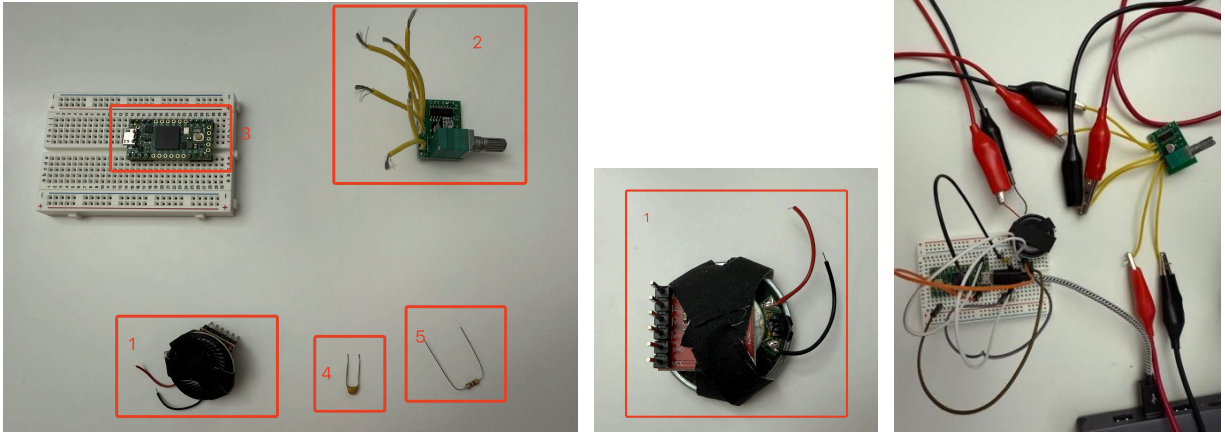

Fig. 1. Main Components
- An electronic speaker tightly coupled with an AXDL335 MEMS analog output accelerometer (#1 in Fig. 1; you need to make it by yourself; Fix them on the breadboard.)
- An audio amplifier (#2 in Fig. 1; 5V power supply; use left channels only; use maximum output level)
- Teensy 4.0 board for reading accelerometer output voltage @ 50 Hz sample rate (#3 in Fig. 1, specs and pinouts can be found here)
- A 100 nF capacitor for low pass filtering (#4 in Fig. 1)
- A 4.7K Ohm resistor for low pass filtering (#5 in Fig. 1)
shown in Fig. 1. Attach the metal side of the speaker with the side of the AXDL335 dev board that does not have the sensor module on it.